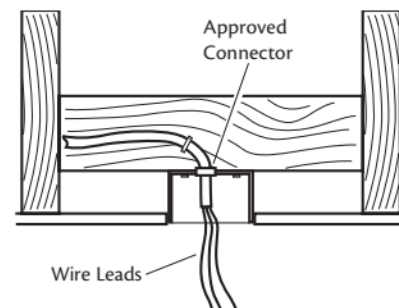

Figure 8 - Preparing the wiring
2. Thread the fan supply line through the outlet box so that the fan supply line extends at least 6" beyond the box as shown in Figure 8.
3. Attach the fan supply line to the outlet box with an approved connector, available at any hardware store or electrical supply house. Refer to Figure 8.